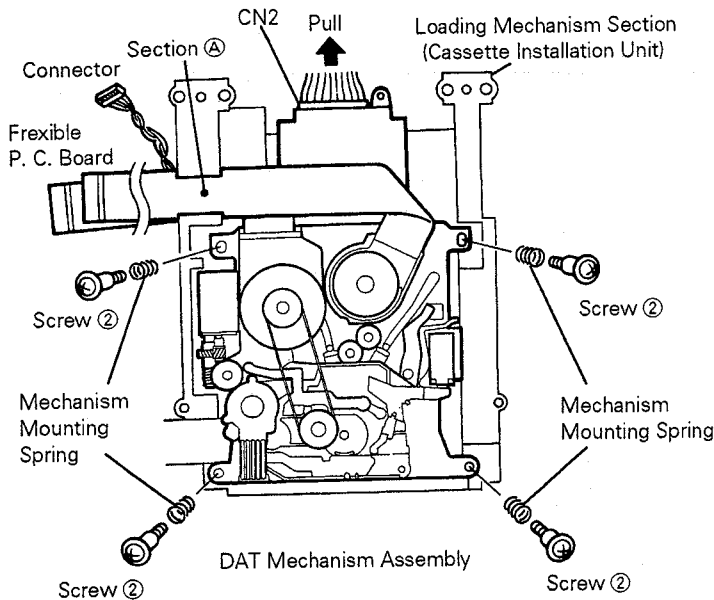

Fig. 2
4. Remove the two flexible P. C. boards and the connector wiring material from the groove of part ㉞. (Refer to Fig. 2.)
5. Remove the four screws ② and the four mechanism mounting springs, and then remove the DAT mechanism assembly from the cassette installation unit. (Refer to Fig. 2.)